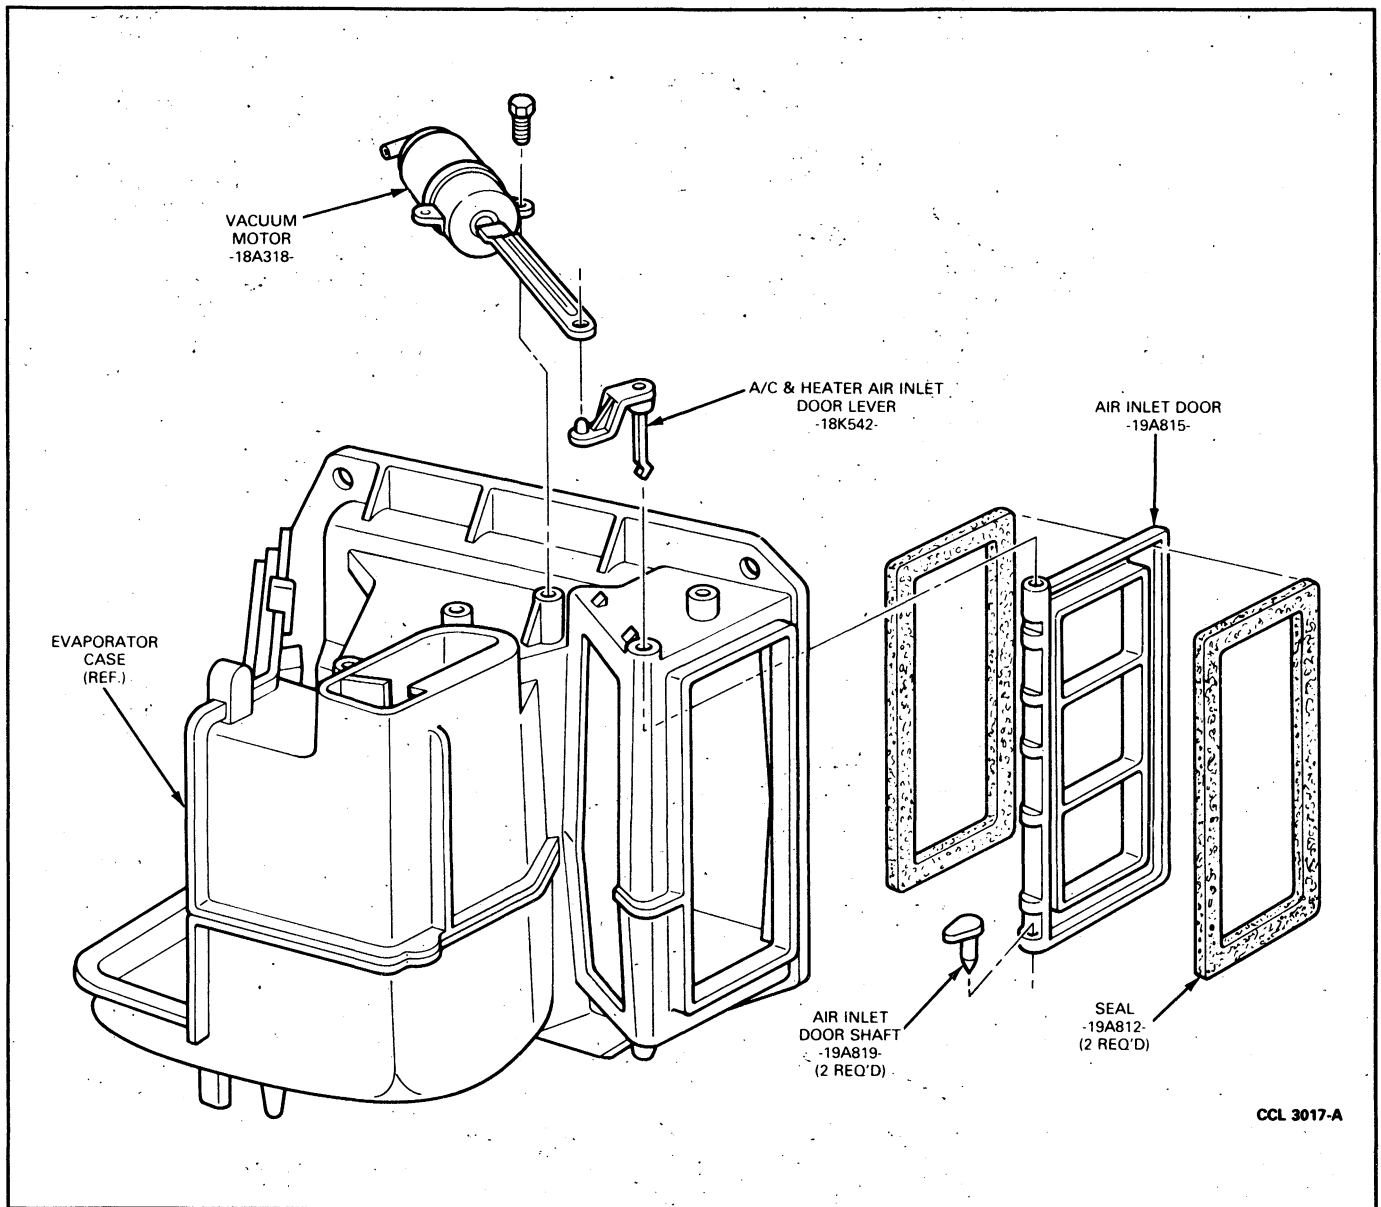

FIG. 13 Outside/Recirc Air Door Vacuum Motor
1. Remove two screws retaining motor to evaporator heater housing (Fig. 13).